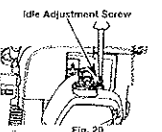

Fig. 20
The idle speed of the engine is adjustable. An idle adjustment screw is between the air filter cover and the engine starter housing (Fig. 20).
2. Release the throttle trigger and let the engine idle. If the engine stops, insert a small Phillips screwdriver into the idle adjustment screw (Fig. 20). Turn the idle speed screw clockwise 1/8 of a turn at a time (as needed) until the engine idles smoothly.